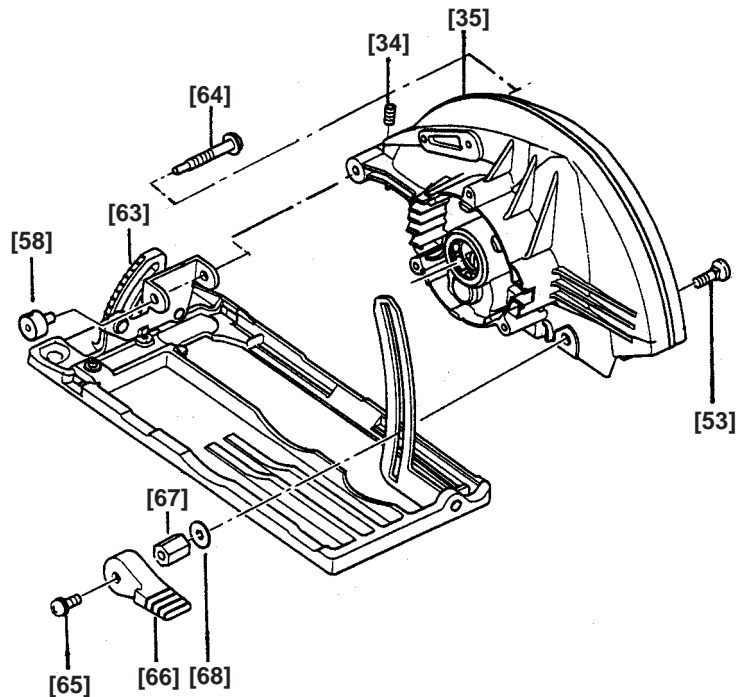

Fig. 7
(7) Removing the Base Ass'y [63] (See Fig. 7.)
- (a) Loosen the Seal Lock Screw (W/Sp. Washers) M6 x 14 [65], then remove Lever (A) [66], Lock Nut [67], Washer [68] and Bolt (Square) M6 x 20 [53].
- (c) Loosen Adjusting Screw (A) [64] and remove it from the Gear Cover Ass'y [35]. Then the Base Ass'y [63] can be removed.